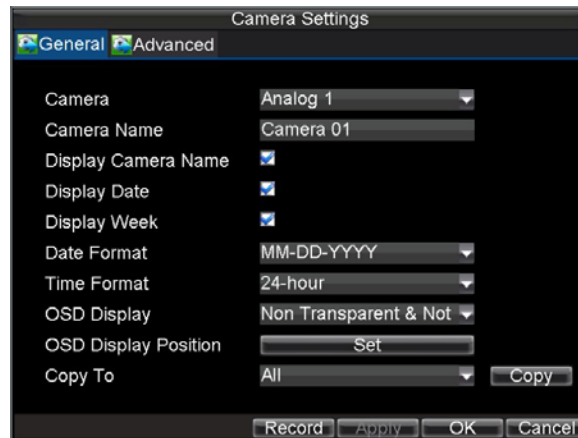

Figure 1. OSD Settings Menu
1. Click Menu > Settings > Camera to enter the Camera Settings menu, shown in Figure 1.
3. Configure desired OSD settings, as shown in Figure1.